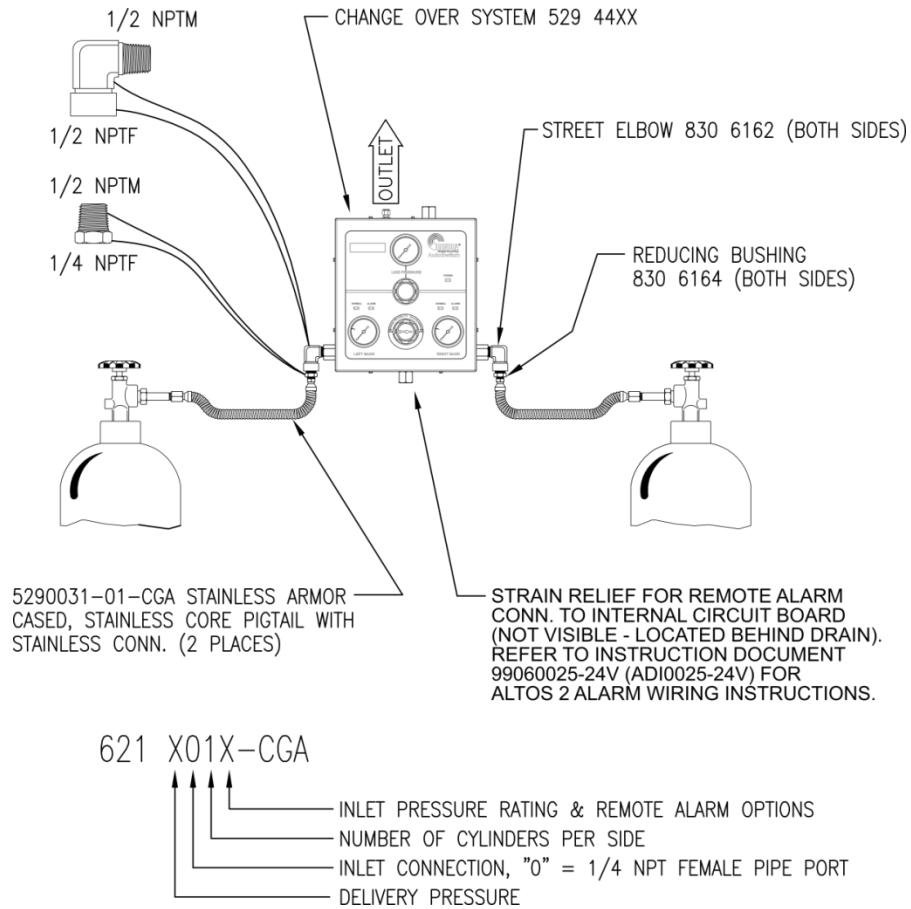

Figure 10 – 1/4" NPT Female Port Shown with One Cylinder per Side
System 621 X01X-CGA (one pigtail per side) – see Figure 10 for locations of components:
2. After taping the male NPT connections, thread the 1/2 NPT of the street elbow assembly into the bulkhead connector of the AutoSwitch as shown in Figure 10. Wrench-tighten.
3. Thread the 1/4 NPT connection of the pigtail assembly into the street elbow assembly as shown in Figure 10. Wrench-tighten. Note: while tightening the pigtail assembly into the street elbow assembly, a second wrench must be in place holding the hex on the street elbow assembly. Failure to do so may cause the street elbow assembly to loosen.